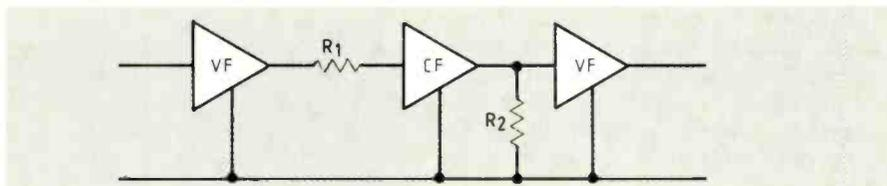

Fig. 15. Follower-based amplifier by Lidzey and Toumazou without overall feedback. Central current follower provides gain.
Figure 15 illustrates such a follower-based voltage amplifier using input and output voltage-followers, with an intermediate current-follower to provide voltage gain defined by (R_2/R_1) . One of the most attractive features of this structure is that the normal gain-bandwidth trade-off does not occur; the bandwidth is independent of gain setting and remains virtually constant.
In Fig.15, the bandwidth of each voltage-follower section is close to the gain-bandwidth product of the op-amp. The frequency performance of the current-follower section, shown in ref.16, is determined by the driving source impedance R_s , which in this case is R_1 . The larger the value of R_1 , the higher the frequency performance. Resistor R_1 can be chosen to maximise the bandwidth of the amplifier and the voltage gain can be set independently with R_2 . High gain and wide bandwidth can thus be set simultaneously.
follower and used in the universal follower-based voltage amplifier of Fig.15. The voltage-followers are the remaining two op-amps on the chip. Results demonstrate that the gain can be varied from 0dB to 30dB with no significant change in bandwidth, as expected. ■